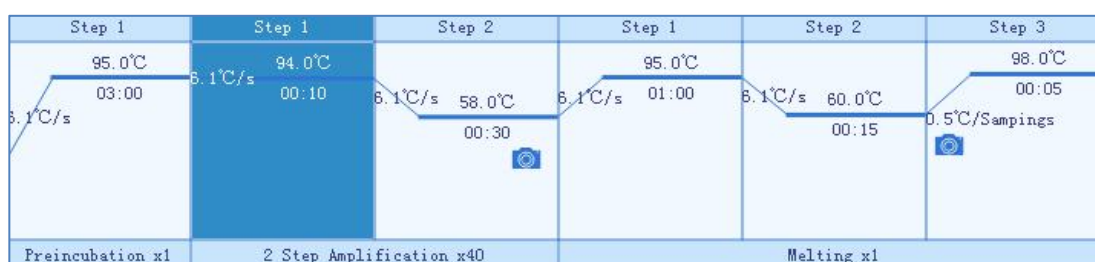

Figure E-3.1 Temperature Setting sub-tab - Example temperature program
6. **Temperature program area**: after stage or step setting, the temperature program area will display the current temperature program, as shown in figure E-3.1. The parameter descriptions are same with those introduced in *D-2.2 Run Setting – Introduction to Temparture Program Area*.